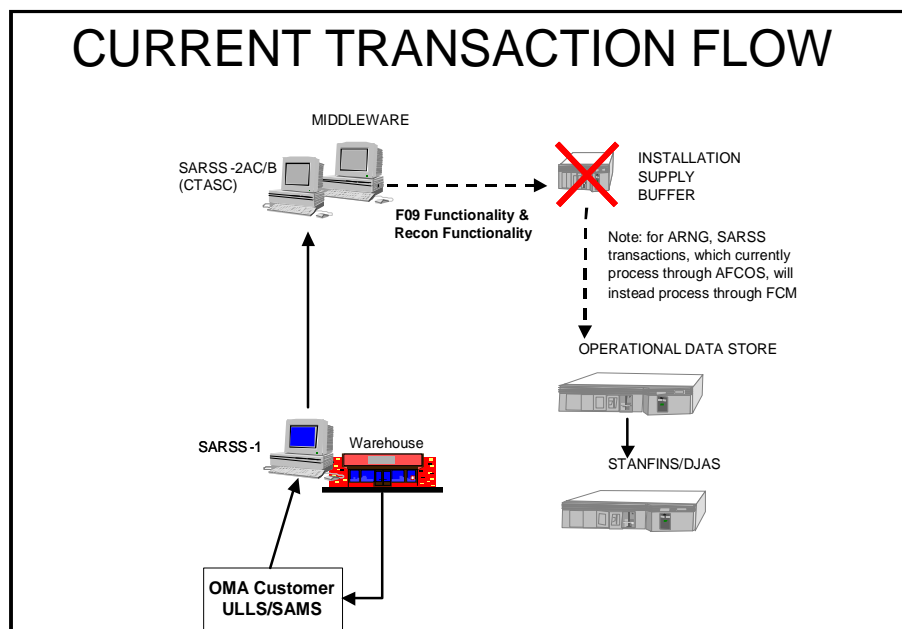

Figure 1 – Current Transaction Flow
Figure 1. Current Transaction Flow .....	2
- **Eliminate Installation Supply Buffer (ISB).** ISB is the current non-accounting Defense Finance and Accounting System (DFAS), which operates between the Standard Army Retail Supply System (SARSS) / Middleware (MW) and Operational Data Store (ODS) / Standard Finance System (STANFINS). Its primary function is to change logistical transactions (on the SARSS generated F09) to MILSBILLS format in support of financial processing for both the Active Army and Army Reserves. The Army National Guard uses the Automated Funds Control Order System (AFCOS) to perform the same task. Funds Control Module (FCM) will replace all 36 ISB in the DFAS inventory, and perform the F09 functionality of AFCOS. Figure 1 shows the current transaction flow, and highlights the future elimination of ISB.